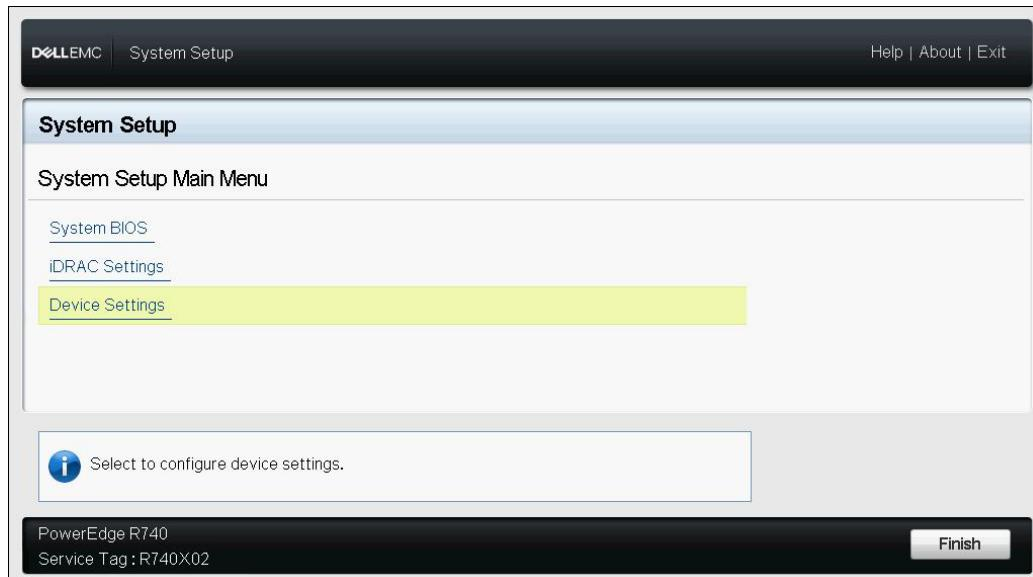

Figure 10-1. System Setup: Selecting Device Settings
2. Press the OEM hot key to enter System Setup (Figure 10-1). This is also known as UEFI HII.